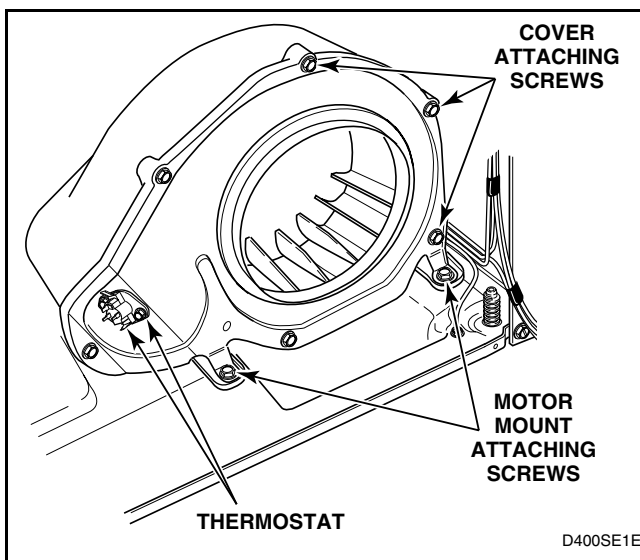
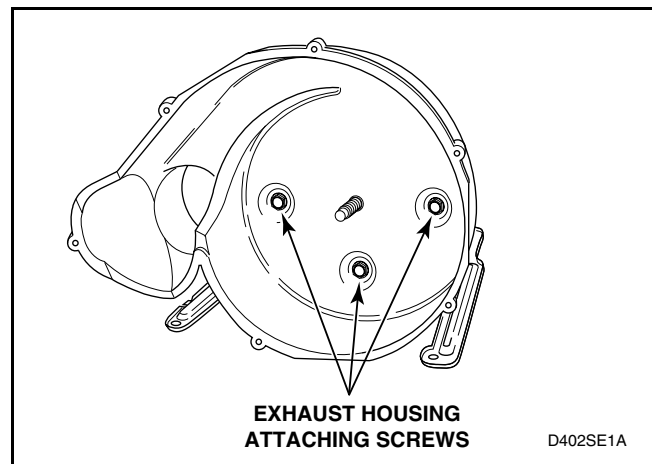

Figure 19
Figure 22
- Disconnect wires from thermostat (and heater, if present) then disconnect ground wire screw. Refer to *Figure 19*.
- Remove two screws holding motor mounting bracket to dryer base. Refer to *Figure 19*.
- (1) Remove screws holding cover to housing. Refer to *Figure 19*.
- (2) Hold motor pulley securely and unthread impeller from motor shaft (right hand thread). Use a 7/8 inch, 6 point socket to aid in the removal of the impeller.
- (3) Remove three screws holding the exhaust housing to the motor mounting bracket. Refer to *Figure 22*.